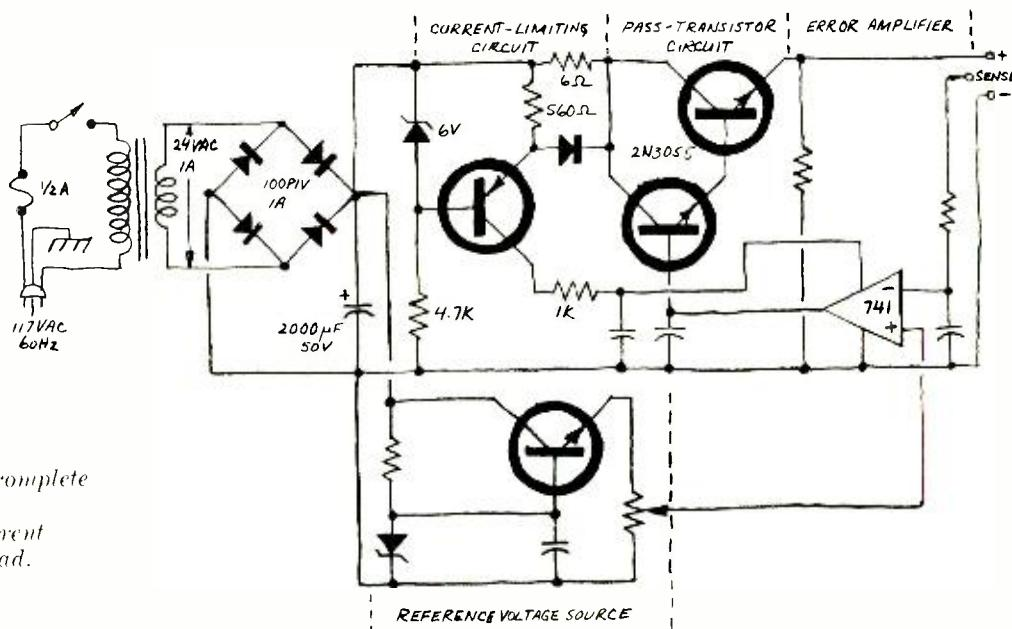

Fig. 10. Schematic of a complete "deluxe" power supply. This design includes current limiting to protect the load.
**Current Limiting.** The schematic of a "deluxe" power supply is shown in Fig. 10. This design has built into it a means for limiting the current to the load. To design current limiting into your power supply, you simply select the component values that will deliver the current to the load limited to the maximum safe current. ◇